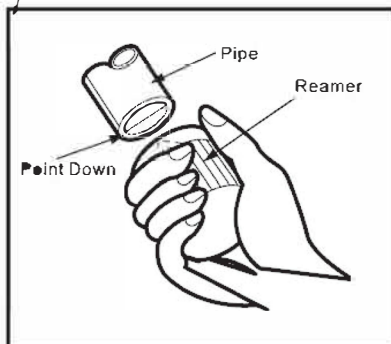

Fig. C.6. 4
- 2) Remove burrs on the cutting edges. Keep the pipe outlet down to avoid getting the metal burrs into the pipe(Fig. C.6. 4).